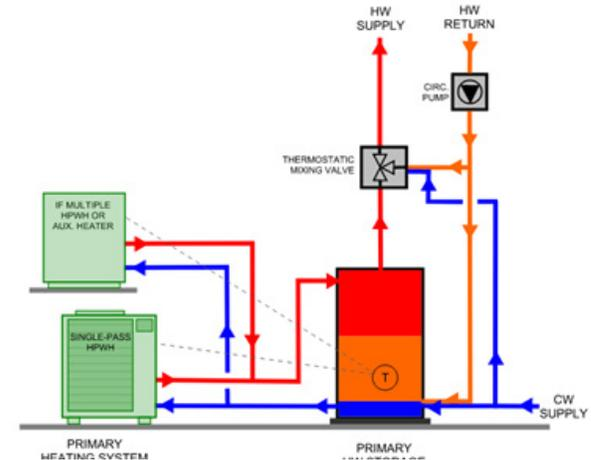

Figure 6: Single-pass primary HPWH system with hot water circulation returned to primary storage tank
- 5 **Figure 6:**
Single-pass, return-to-primary HPWH systems, shown in Figure 6, offer another approach to installing systems without dedicated temperature maintenance equipment, but they require single-pass primary heaters that are specifically designed for this configuration. Single-pass HPWHs employed in single-pass return-to-primary configuration must be capable of heating entering hot water to high